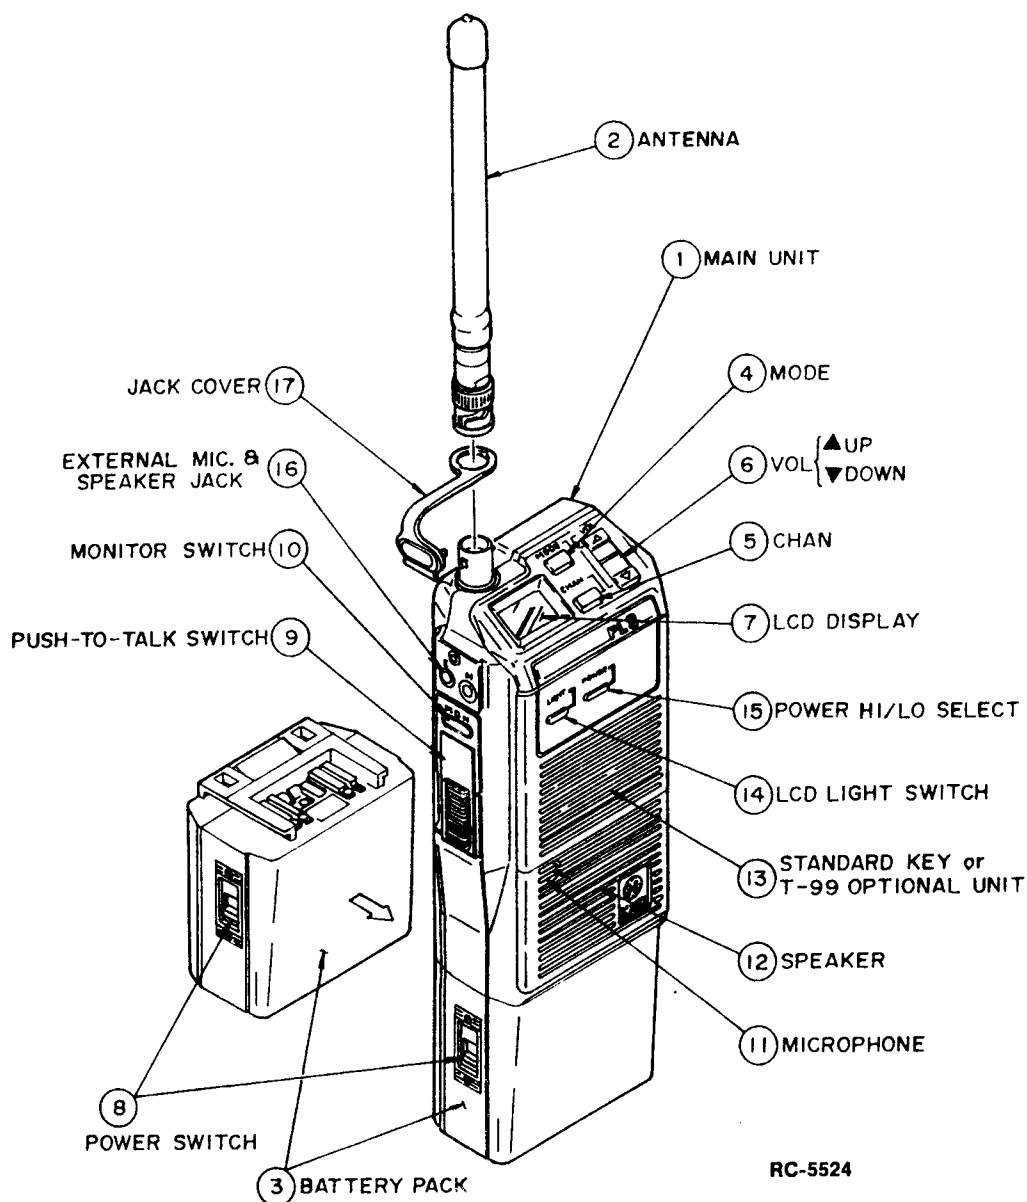

FIGURE 1 - STANDARD PLS OPERATING CONTROLS AND ACCESSORIES
- **Push Button Controls Only:** All control functions on the radio, with the exception of the power ON/OFF switch, are operated through push button controls on the top and sides of the radio (see Figure 1).
Assemble these parts into one unit according to the following procedure and as shown in Figure 1 - PLS Standard Operating Controls and Accessories.
1. Screw the antenna ② in its receptacle. A clockwise turn will connect the antenna, while a counterclockwise turn will remove it.
2. Slide the battery pack along the bottom of the PLS radio from the arrow marked direction shown in Figure 1 until the battery pack locks into place.
Operating Procedure (Refer to Figures 1 and 2)